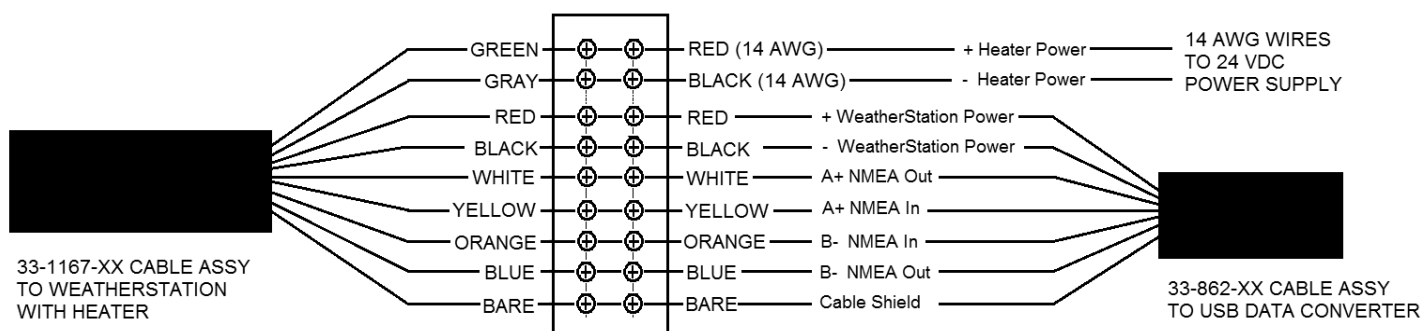

Figure 3. Wiring the junction box
1. Sensor cable, 33-1167-01—Connect each colored wire and the bare wire to a separate terminal in the terminal block (Figure 3). Insert the stripped end of each colored wire into the appropriate opening in the side of the terminal block. Tighten the terminal screw until the wire is held firmly.